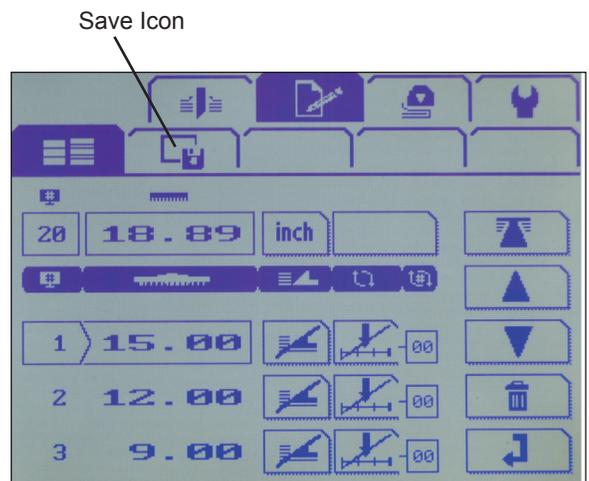

Fig. 8c
5. The measurements will be automatically calculated for the job (Fig. 8c). Press the Save icon  to store the job.